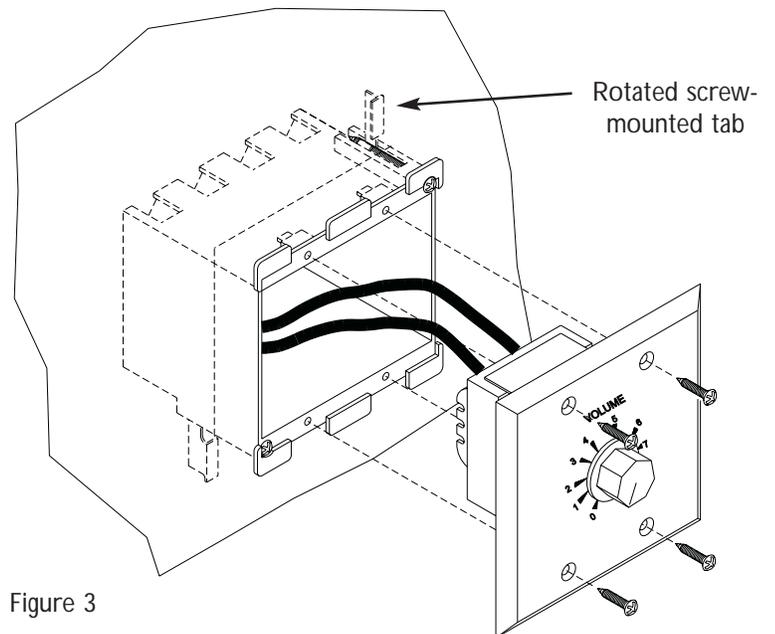

Figure 3
- 8) Mount the attenuator to the electrical box using the 4 screws provided. Using a Phillips head screwdriver, screw the attenuator into place (see Figure 3).